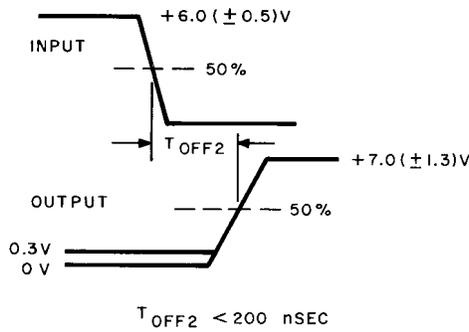

Fig. 52A — EIA Interface Test
- (1) Set the EXT SYNC TRIGGER to (-) negative.
- (2) Repeat 8.10A (1), (2), and (3). Input-output waveforms shall be as specified in Fig. 52A, 53A, and 54A, respectively.